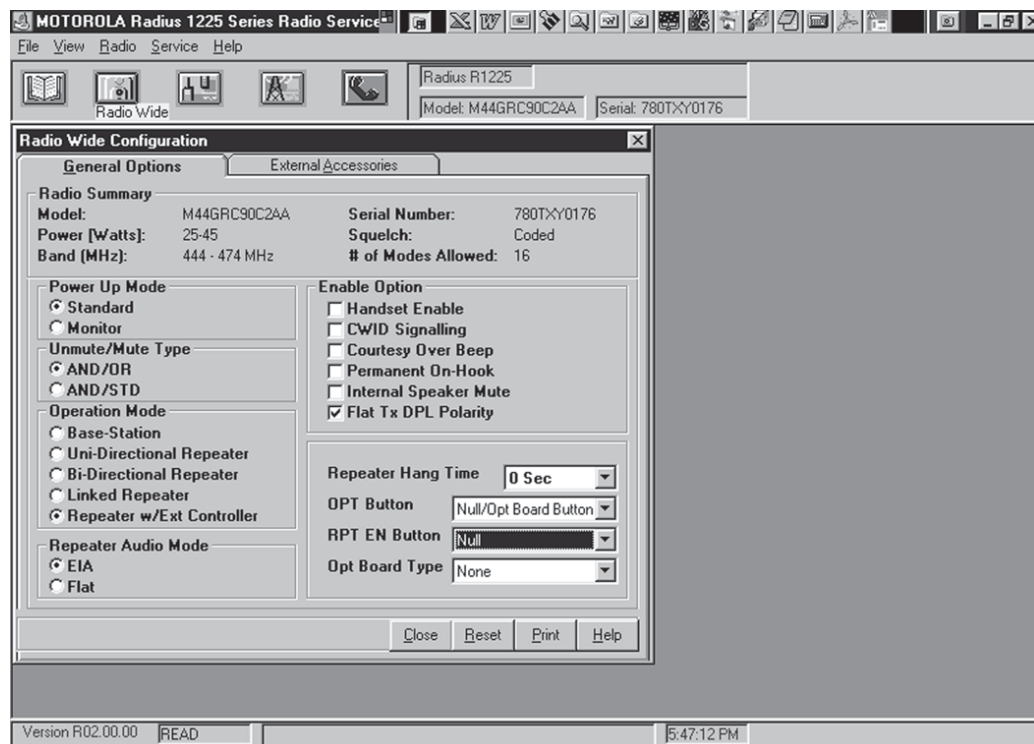

Fig. 2
4. Using Fig. 2 and 3 as a guide, select the options shown.